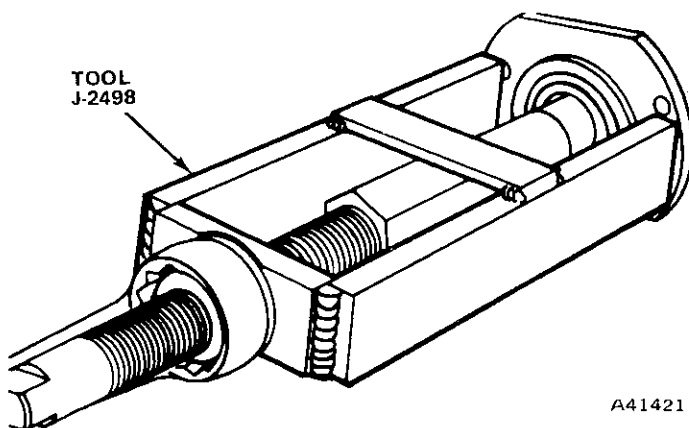

Fig. 2F-20 Axle Shaft Removal—AMC/Jeep Axle
(5) Remove and discard axle shaft inner oil seal.
(6) Remove axle shaft bearing if bearing is worn or damaged.
**NOTE:** The bearing is a press-fit on the axle shaft and must be removed using an arbor press only (fig. 2F-21). Do not attempt to remove the bearing by any other method.